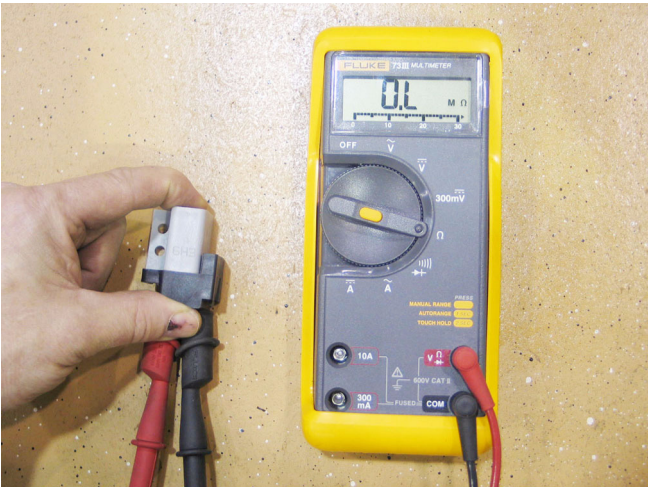

Figure 36.14
36.14. Always test switches in all modes of operation to confirm that they work correctly. See Figure 36.14.